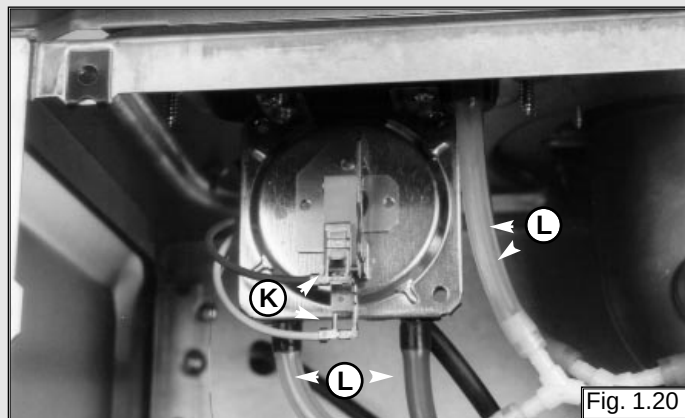

Fig. 1.20
1. Disconnect the electrical connections "K" and silicone pipes "L" from their connection points (see fig. 1.20);